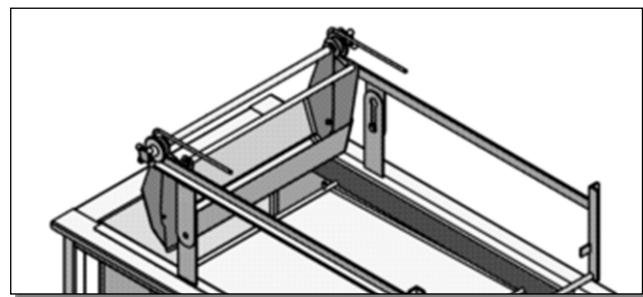

Figure 3, Upper Frame Assembly
6. ASSEMBLE the **Glaze Applicator** onto the top of the **Upper Frame**, aligning the rollers with the tracks (See Figure 3.)